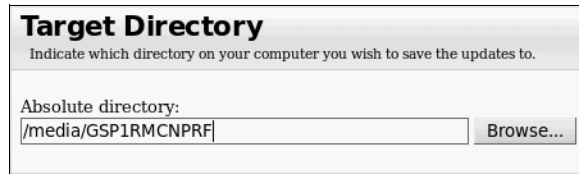

Figure 5-87 Selecting your target directory
6. Enter the settings for an HTTP proxy server (if necessary) or leave the option cleared, as shown in Figure 5-87. Click **Next**.
7. Select the directory in which you want to store the downloaded files, as shown in Figure 5-87. Click **Next**.